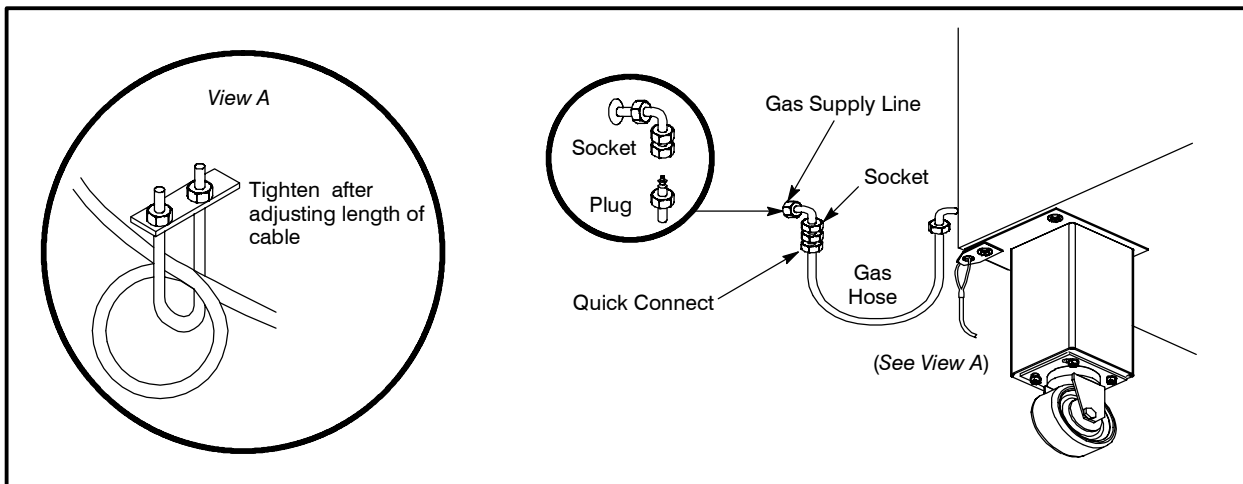

Figure 16
- The restraint should be short enough to prevent any strain on the connector. See Figure 16 View A for length adjustment detail.